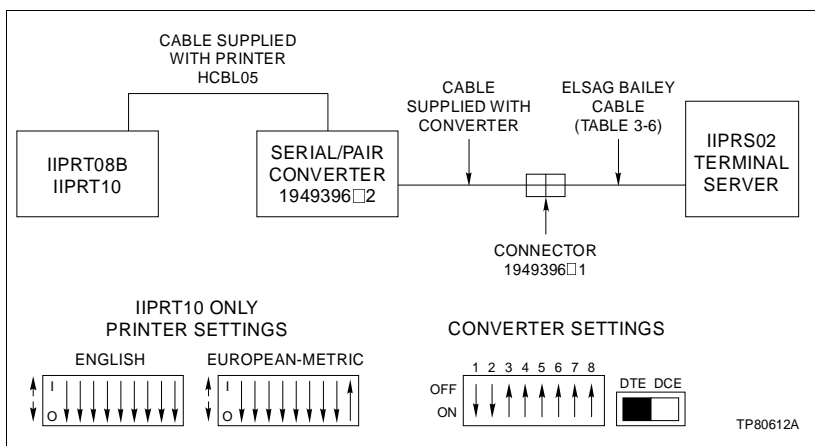

Figure 3-19. IIPRT08B\_ and IIPRT10\_ Printer Cable Configuration and Dipswitch Settings
Figure 3-19 shows the printer cable configuration for the IIPRT08B\_ and the IIPRT10\_ printers.
**NOTE:** Printer dipswitch settings are different for English media (A and B) and European metric media (A4 and B3). Refer to Figure 3-19.
Refer to Figure 3-19 for cabling requirements and dipswitch settings for both the IIPRT10\_ printer and the serial/pair converter. The printer connects through a parallel cable, HCBL05, which connects to a serial/pair adapter. The serial/pair adapter connects RJ45 to an adapter that converts it to a DB-25. The DB-25 connector connects to the asynchronous serial cable which connects to the IIPRS02 terminal server at 9600 baud. Three cables are required: one between the printer and the serial/pair converter (supplied with the printer), one between the serial/pair converter and the null modem cable (supplied with the converter), and one between the converter cable connector and the terminal server (Table 3-6).